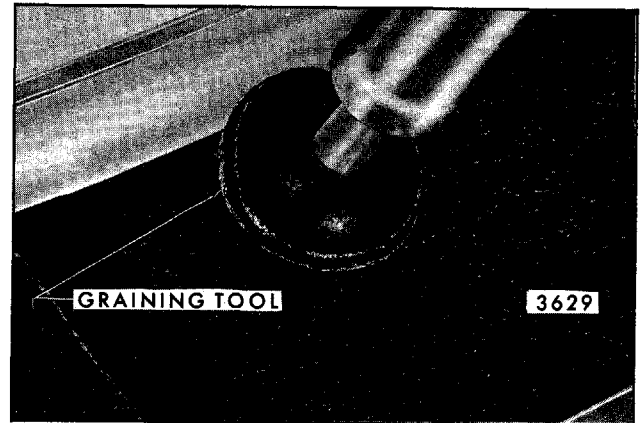

Fig. 8-55-Vinyl Patching Compound Curing and Graining
4. Graining operation is performed by exerting light hand pressure and applying preheated graining iron over damaged compound filled area for approximately one and one-half minutes (see Figs. 8-55 and 8-56). Curing and graining time can be increased slightly depending on size of repair.